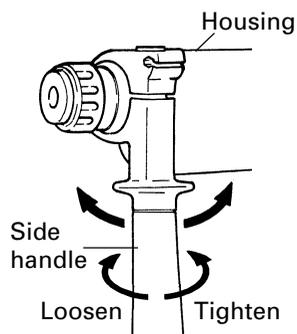

Fig. 7
2. Attaching the side handle (Fig. 7)